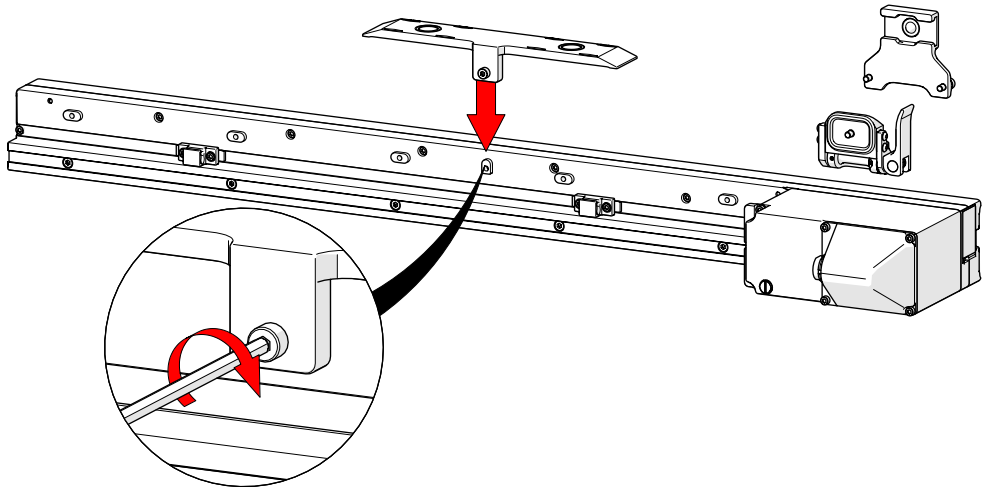

Fig. 154 - Affix the magnetic base to the raster arm
- 13.** Align the screw for the cable tray's magnetic base to the centre of the raster arm. Tighten magnetic base screw (Fig. 154).